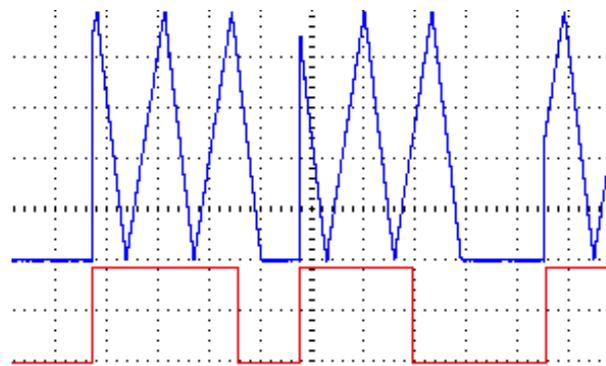

Figure 4: Pressing Cycle button in Sync mode
- **Async jack (Asynchronous)** — Apply a trigger/gate to this jack to causes the channel to enter Async mode. An envelope will start immediately. Holding a gate high will cause the envelope to sustain, and then start the fall curve once the gate is released (A-S-R envelope). In Async mode, the envelope does not sync to the ping clock. However, the envelope length is still determined by the ping clock. See *Async vs. Sync section*. See *Figure 4*, also *Figure 2*.